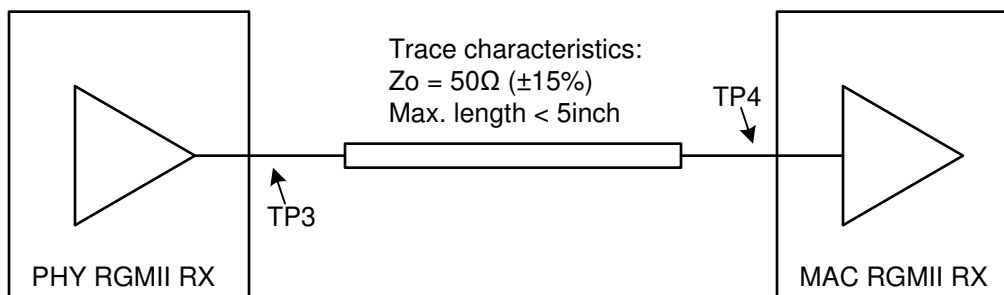

Figure 7-15. RGMII RX Requirements
- No damping resistors should be added at TP3/TP4, in Figure 7-15, as that will impact signal integrity of RX signals.
- Figure 7-15 shows a RGMII interface requirements for RX* signals. MAC RGMII driver output impedance should be 50Ohm+/-20%.
- Signal Integrity at TP3 and TP4, in Figure 7-15, should be verified with IBIS model simulation and ensured conformance to following requirements: